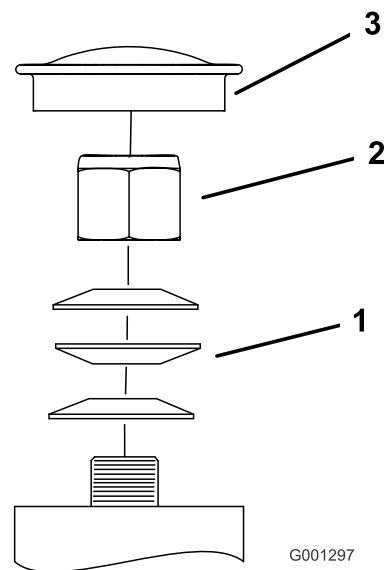

Figure 67
3. Remove the dust cap from caster and tighten the locknut (Figure 67).
4. Tighten the locknut until the spring washers are flat, and then back off a 1/4 turn to properly set the preload on the bearings (Figure 67).
Important: Make sure that the spring washers are installed correctly as shown in Figure 67.
5. Install the dust cap (Figure 67).